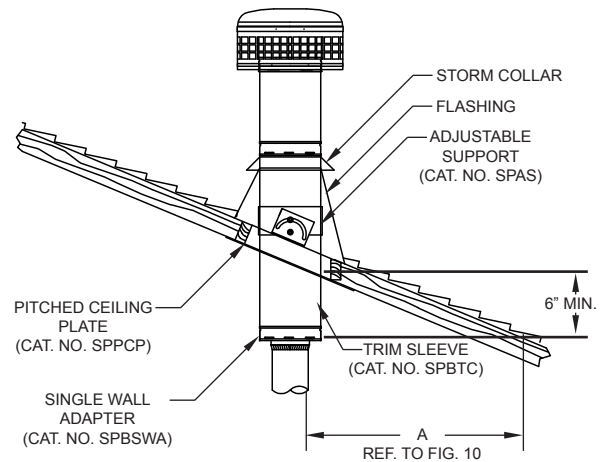

FIG. 11
9. **WARNING:** Use only Single Wall or Double Wall Black Stove Pipe connector below the ceiling line as shown in **FIG. 11**. Use of additional SP pipe as a connector is prohibited.